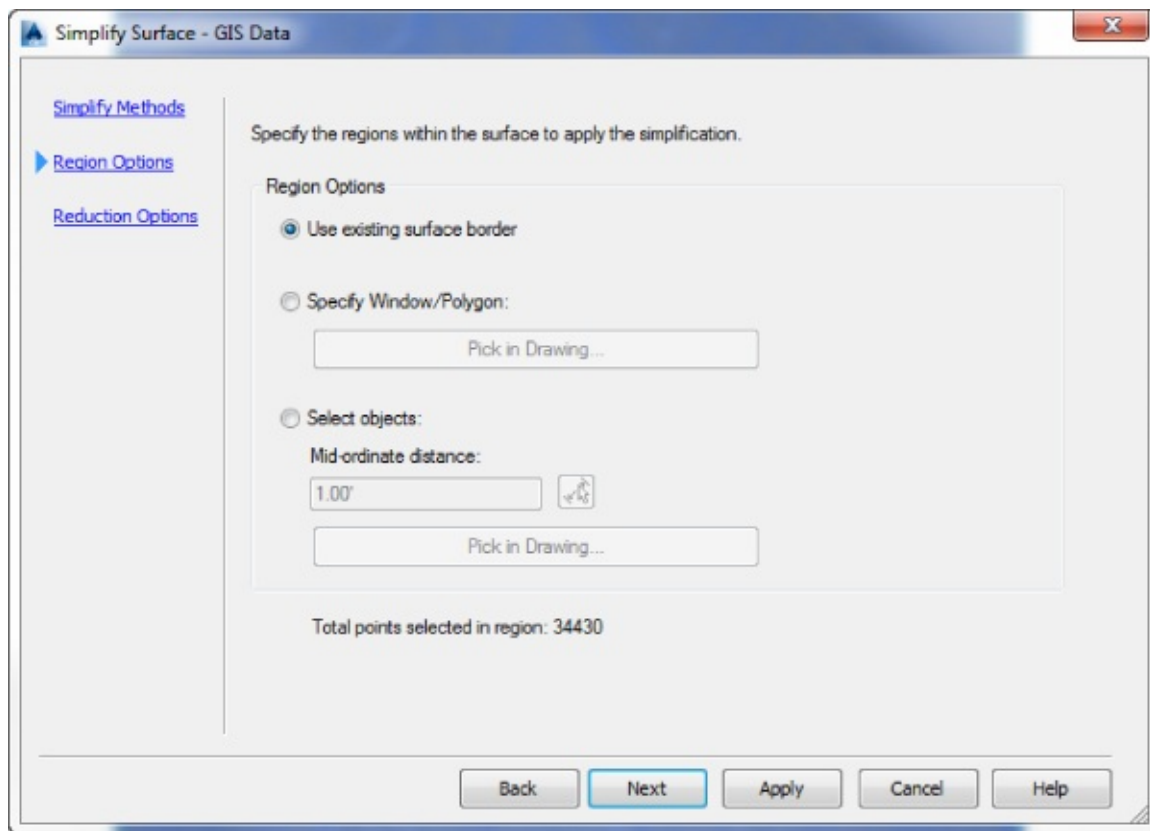

Figure 4.39 The Simplify Surface – Region Options page
5. Accept the Region Options defaults, as shown in Figure 4.39, and click Next to move to the Reduction Options page.